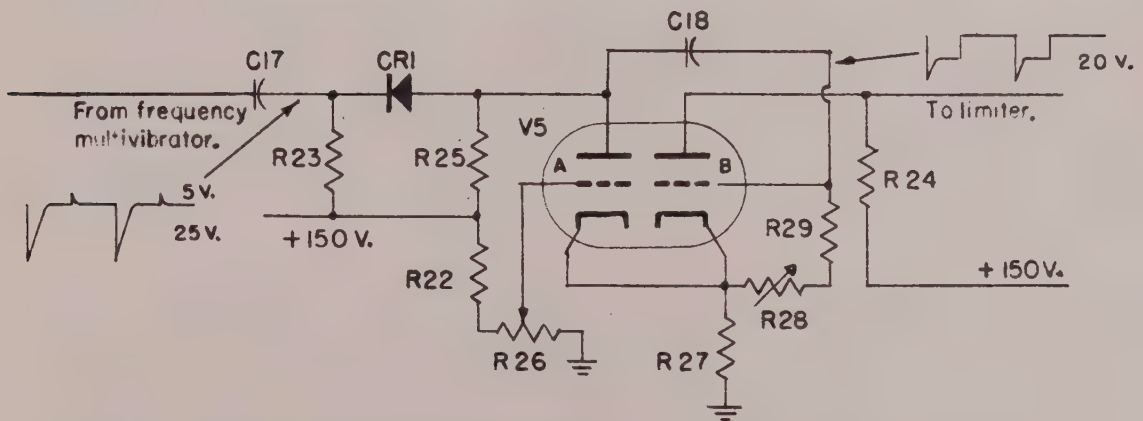

Fig. 3. Functional Schematic, Pulse Width Multivibrator.
a. The square-wave output of the frequency multivibrator is applied through a differentiating circuit to a cathode-coupled, "one-shot" multivibrator which determines the width of the output pulse. These circuits are shown in figure 3. During the quiescent period triode section B of tube V5 carries a large plate current, since its grid is at cathode potential, and raises the cathode potential of sections A and B considerably positive with respect to ground. This results in plate cut-off for section A.